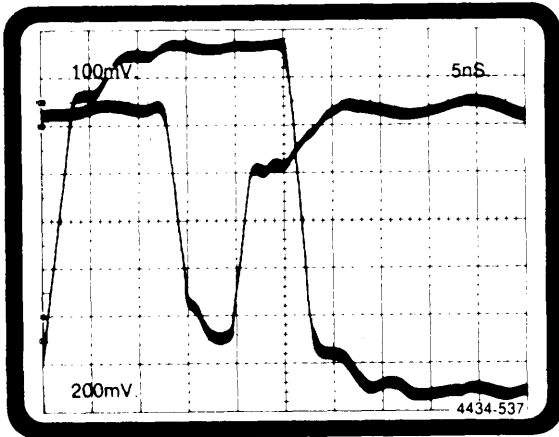

Figure 5-64. 338 Glitch data acquisition test waveform #2.
1. Set the pulse generators according to Table 5-25 and Figure 5-64.